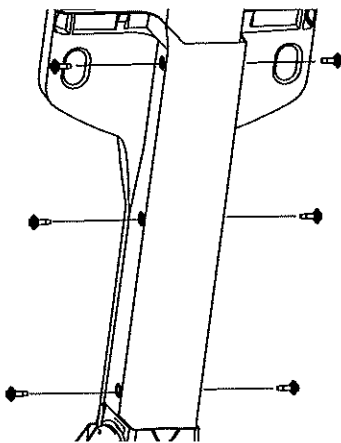

Figure 2-6
9. Secure the console in place with the six shoulder screws. See Figure 2-6. Torque the shoulder screws to 60 in/lbs (+/- 20%).